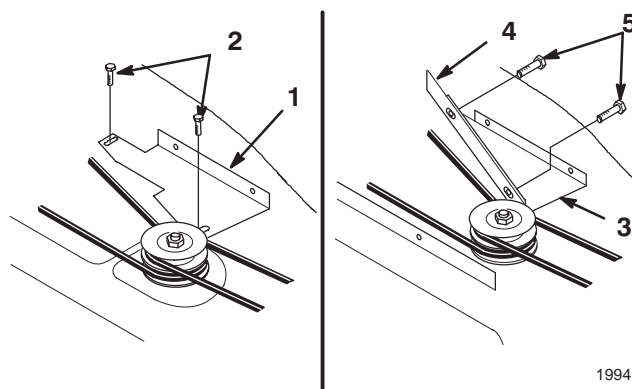

Figure 18
- On 42 in. mowers, mount the belt cover bracket using 2 thread forming, flange-head bolts (1/4 x 1/2 in.) in the holes used by original cover (Fig. 18).
- On 48 in. mowers, mount the belt cover bracket to the front rib on the top of the mower using 2 flange-head bolts (1/4 x 3/8 in.) (Fig. 18).